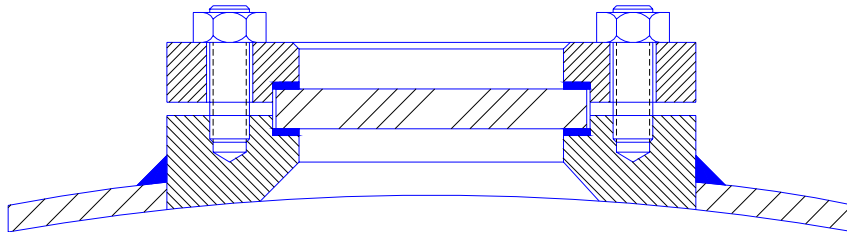

Figure 3
c) Radius Vessel Wall with Radius Weld Pad (Figure 3)